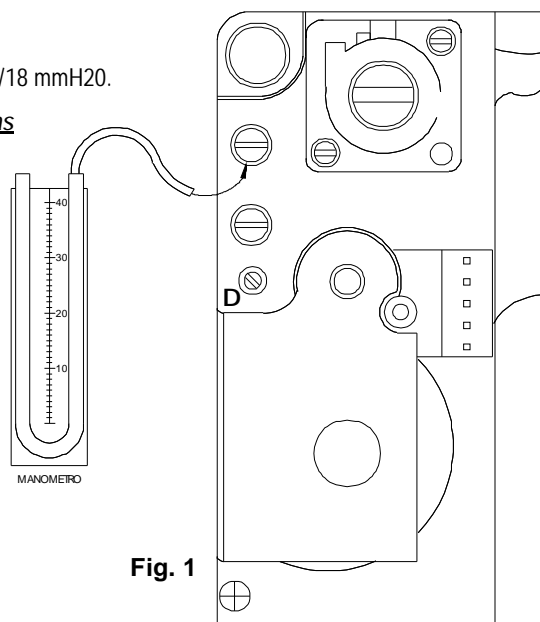

Fig. 1
- Using a single cut screwdriver turn D screw (fig.1 ) clockwise and tight it ;
- To adjust the mechanical minimum, turn D screw (fig.1) counter-clockwise for two complete turns.
- a. insert a manometer into the gas valve pressure point B (fig.1);
- i. The manometer inserted in the pressure point B (fig. 1) will show the minimum gas pressure;